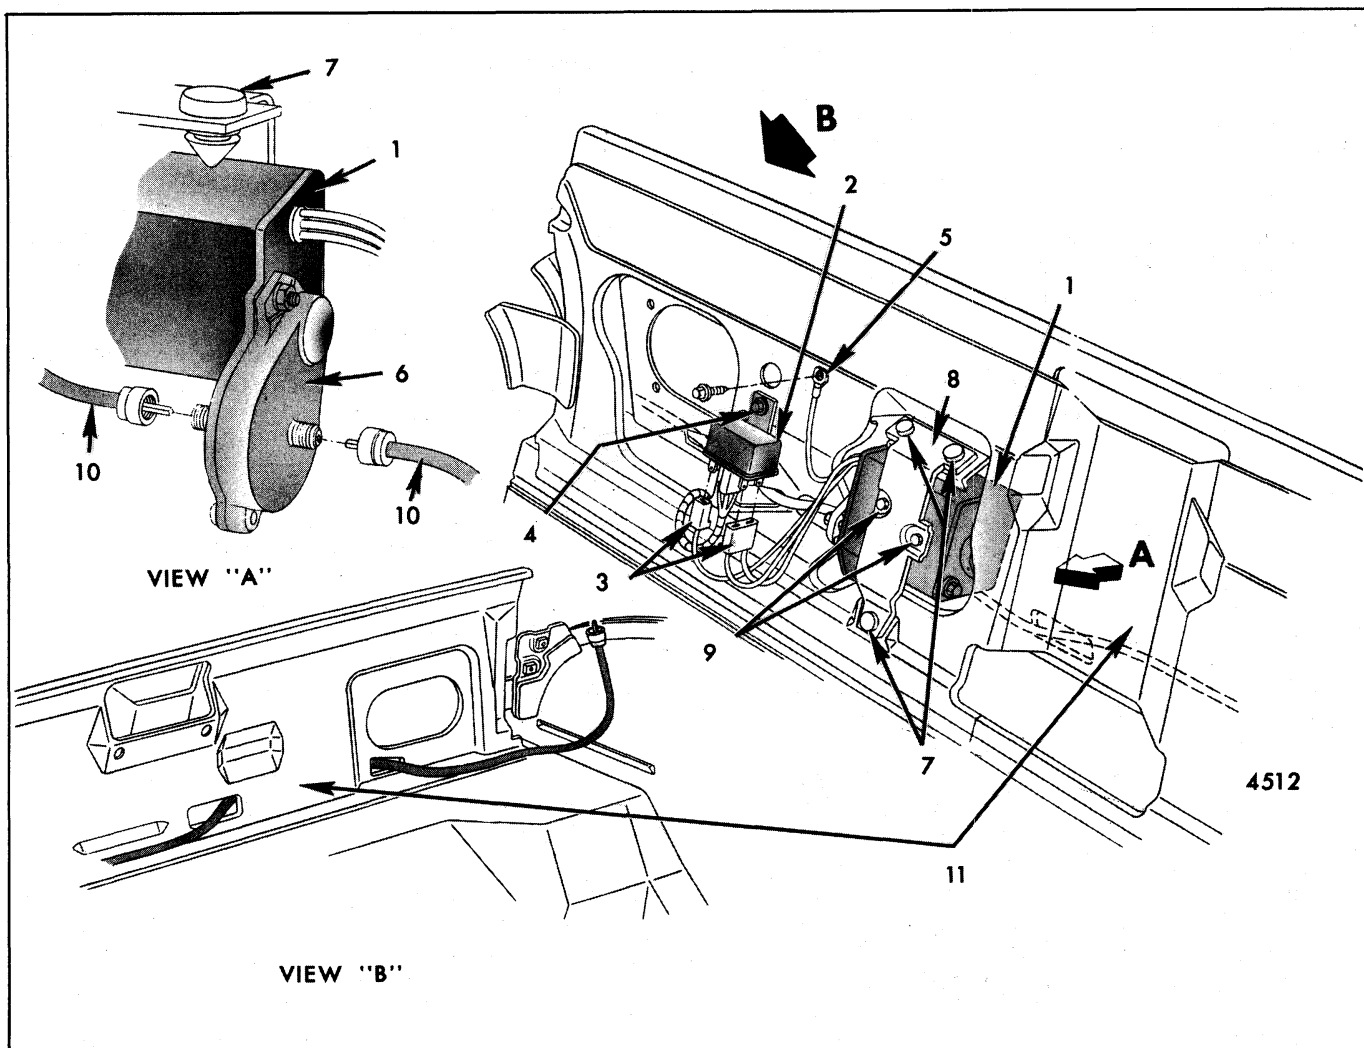

Fig. 8-97-Folding Top Electric Motor and Relay
to the rear seat back panel and are accessible in the rear seat area (Fig. 8-97).
3. Detach electric motor connectors from relay (Fig. 8-97).
6. Detach rubber grommets securing motor support to rear seat back panel (Fig. 8-97).
7. Detach right and left drive cables from electric motor reduction unit (Fig. 8-97).
3. Detach right and/or left drive cable at electric motor reduction unit (Fig. 8-97). For removal of left drive cable, first detach motor.